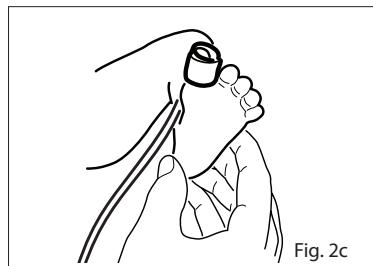

Fig. 2c
4. Refer to Fig. 2c. Ensure that the emitter window (\*) aligns on the top of the toe directly opposite the detector. Verify correct positioning and reposition if necessary.